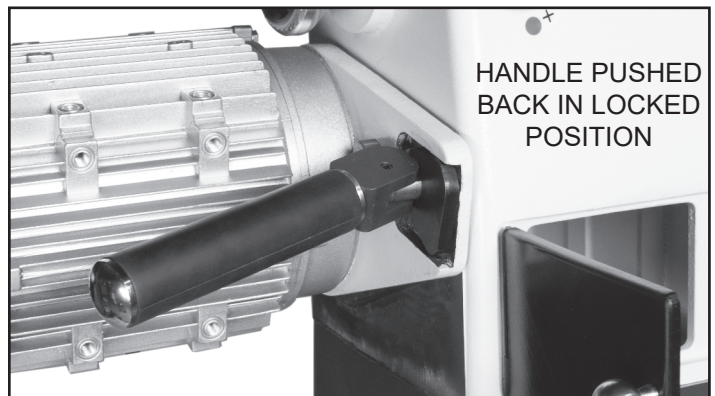

FIG. 32
3. Pull the Belt Tensioning Handle (#54B) forward, away from the motor. Figure 32.
5. With the Poly-V-Belt positioned on the pulleys, raise the tensioning handle so that the weight of the motor provides the needed tension on the belt. Then secure the tensioning handle in place by pushing the handle back towards the motor. Figure 32.
3. Pull the Belt Tensioning Handle forward, away from the motor. FIG. 41. (See Page 18, Figures 32 & 33).